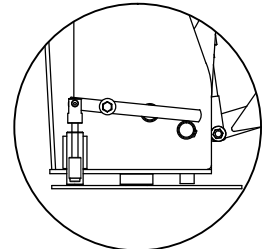

Figure 3
- Step 1. Push down and hold the swing release lever releasing the swing release pin. (Figure 3)